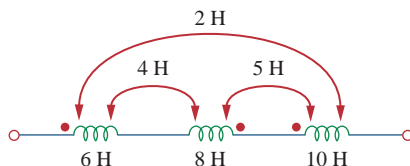

Figure 13.72
- 13.1** For the three coupled coils in Fig. 13.72, calculate the total inductance.